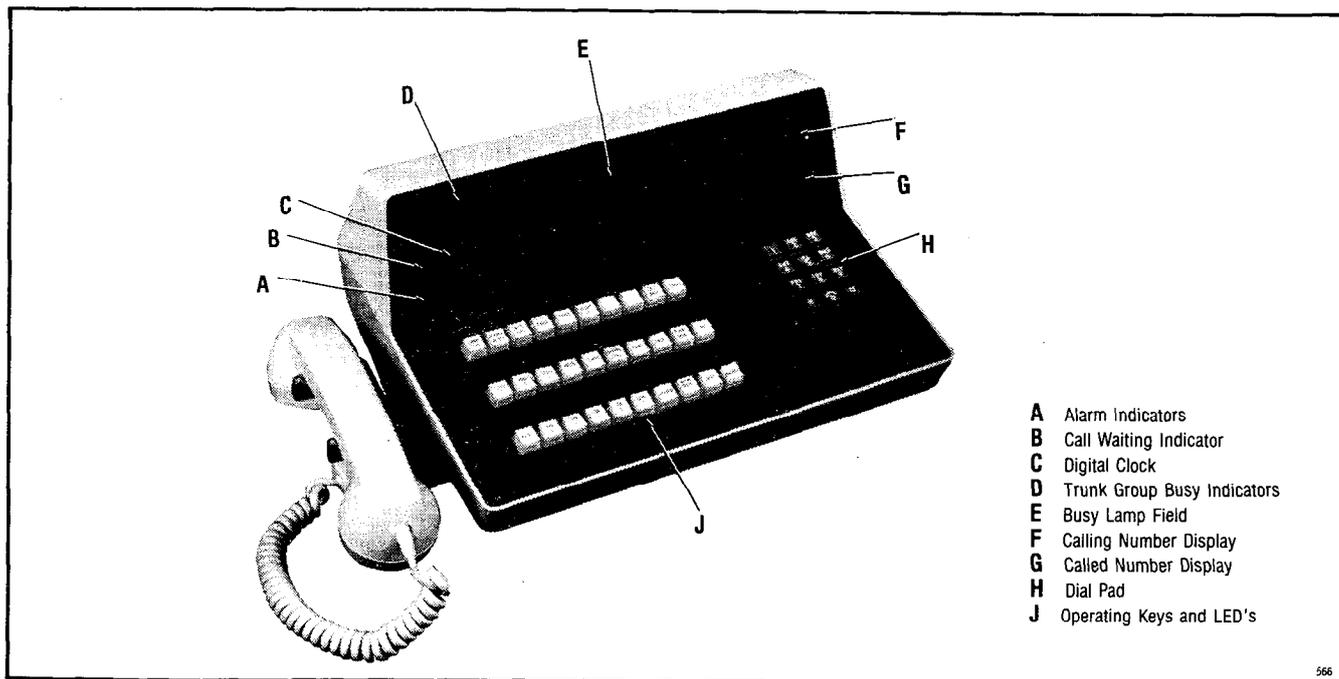

Fig. 3-1 Attendant Console
3.02 Console Alarm LEDs and Maintenance Aids: Each attendant console (Fig. 3-1) is equipped with a number of maintenance aids and keys which are associated with maintenance functions. The following paragraphs describe the function of each maintenance associated LED and key.